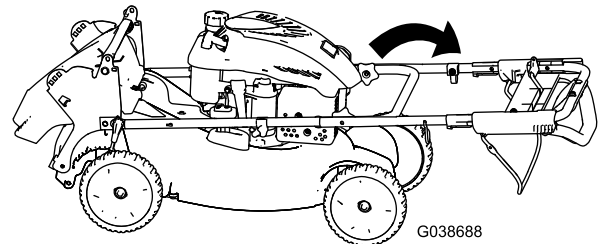

Figure 24
3. Rotate the entire handle forward (Figure 24).